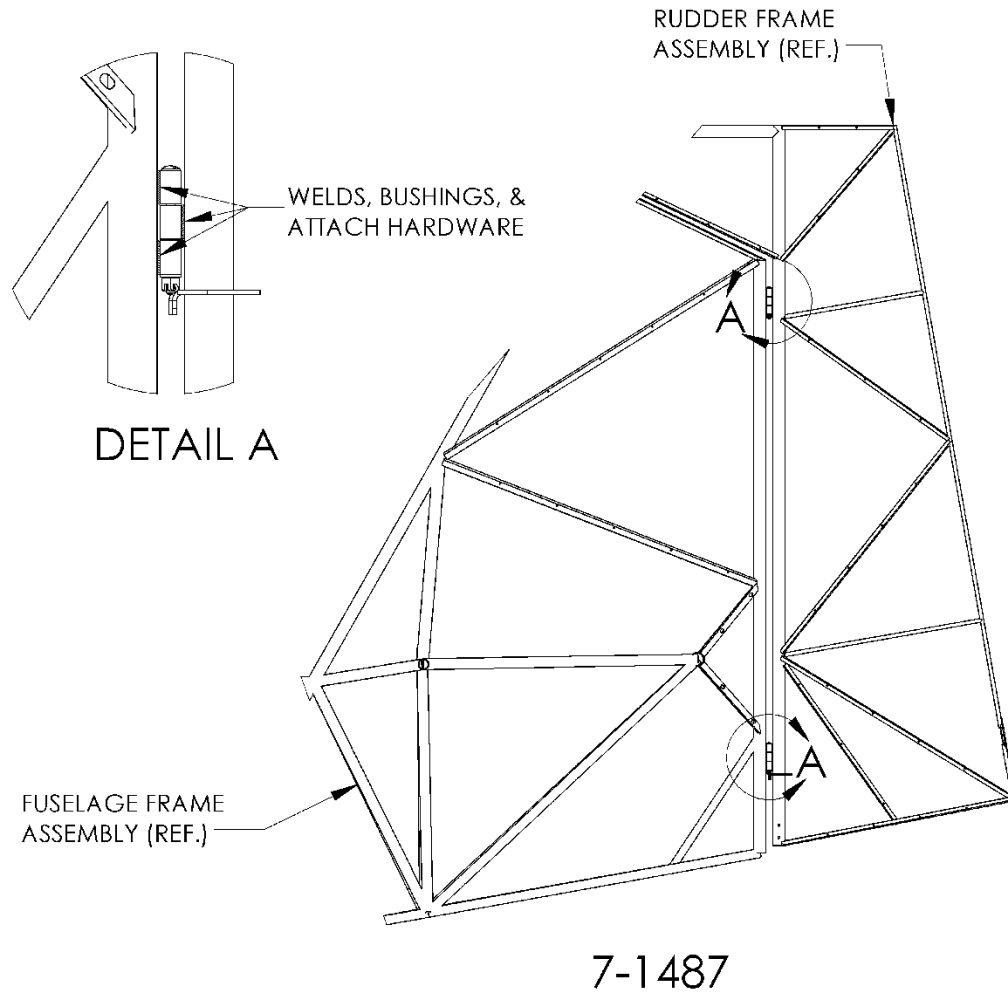

FIGURE 1 : TAIL SURFACE INSTALLATION
4. Visually inspect the weld surfaces shown on Figure 1 Detail A for cracks, porosity, undercut, and/or lack of fusion. Ensure to inspect the material around the weld as cracks can propagate from the weld. With a 10-times magnification lens, methodically inspect the entirety of each of the weld beads shown on Figure 1 Detail A. Ensure to pay close attention to the toe lines (where the weld meets the metal) as this is the most common initiation point for cracking. Identify if there are any micro-cracks, voids, small holes, pores, or other irregularities in the welds. Consult FAA AC 43.13-1B, paragraph 4-78 to determine if the welds are within acceptable limits.